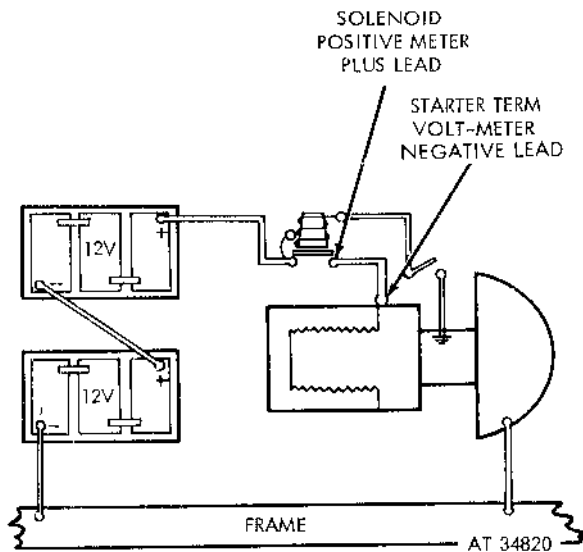

Figure 2-32. Starter solenoid-to-starter connector test.
e. Starter Solenoid-to-Starter Connector Test (Fig. 2-32).
(1) Leave the voltmeter leads connected to the tester.
(2) Connect the positive (+) voltmeter lead to the terminal at the solenoid relay starter connector side.
(3) Connect the negative (—) voltmeter lead to the terminal of the connector on the starter motor housing.
(4) Place the voltage selector switch in the 50-volt position, close the starter switch with the ignition switch in the OFF position, and read the voltmeter.
(5) If the voltage reading is less than 20 volts, change the selector switch to the 20-volt position and repeat (4) above.
(6) If the reading is less than 10 volts, change the selector switch to the 10-volt position and repeat (4) above.
(7) If the reading is less than 1 volt, change the selector switch to the 1-volt position and repeat (4) above.
(8) The maximum allowable voltage loss is 0.2 volt.